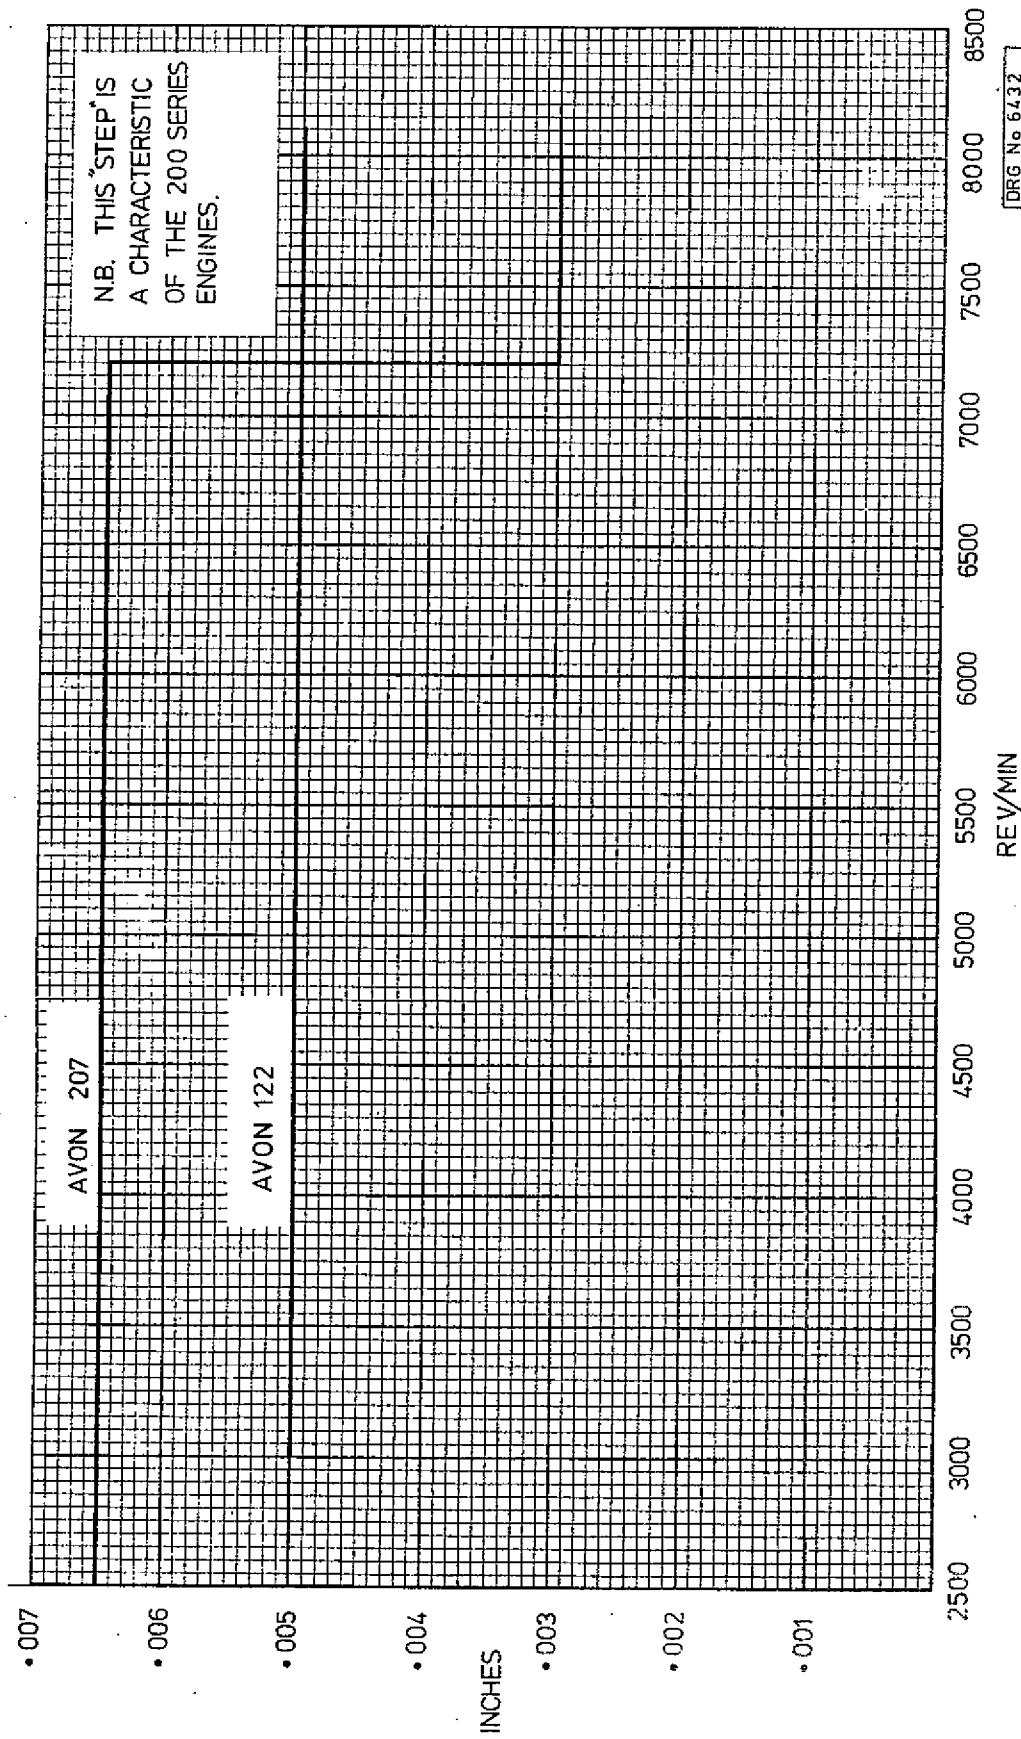

Fig. 5 Engine Vibration Limits
NB 1 During vibration recording the vibration limits for continuous running are shown in Fig.5.
- 7.4 Meter readings obtained in Sub-items 7.2 to 7.3 inclusive.
- (i) Plot on graph of amplitude versus per cent rev/min. (Fig.5).
8.4 Vibration limits chart. (Fig.5). Refer to and compare with meter readings recorded in Sub-item 8.3. Rectify or reject engine as necessary.